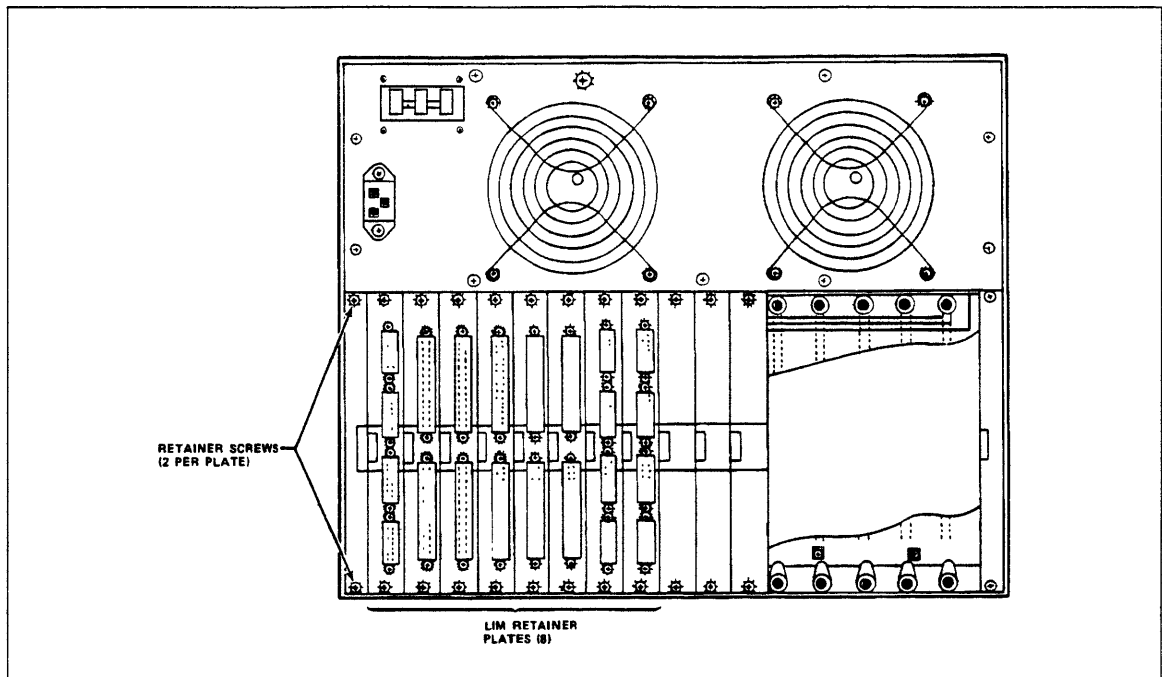

Figure 9-3. LIM Board Filler/Retainer Plates
3. Remove two Phillips screws from LIM/URI board retainer plate in back of DI (figure 9-3).